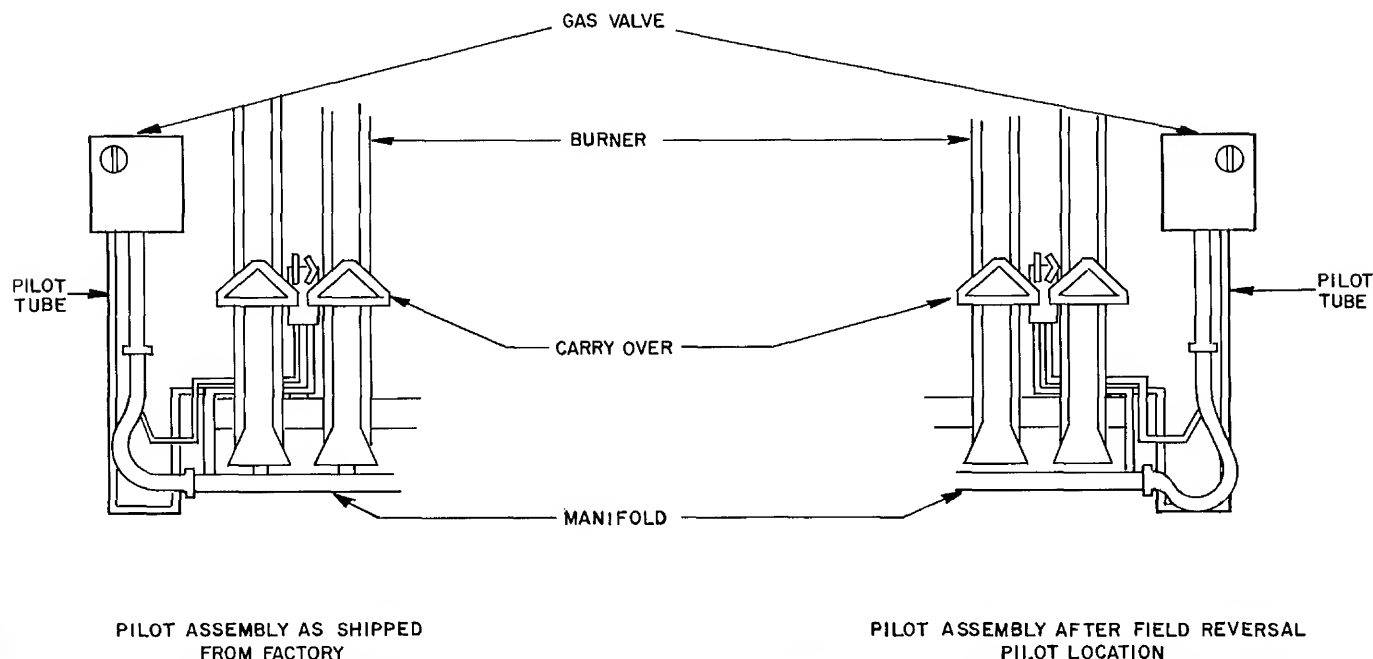

Fig. 10 — Pilot Assembly
14. With the pilot bracket removed from burners, rebend the pilot tubing and thermocouple at the second bend per Fig. 10. Make sure there are no kinks in tubing.
17. *Standing pilot models only:* Mount the pilot bracket on the crossovers of the first 2 burners on the side of manifold where valve is now mounted (Fig. 10). Connect thermocouple and the 1/4 in. diameter pilot gas tubing to gas valve. This requires adjustments to pilot tubing and thermocouple. It is extremely important not to kink either the thermocouple or aluminum tubing.